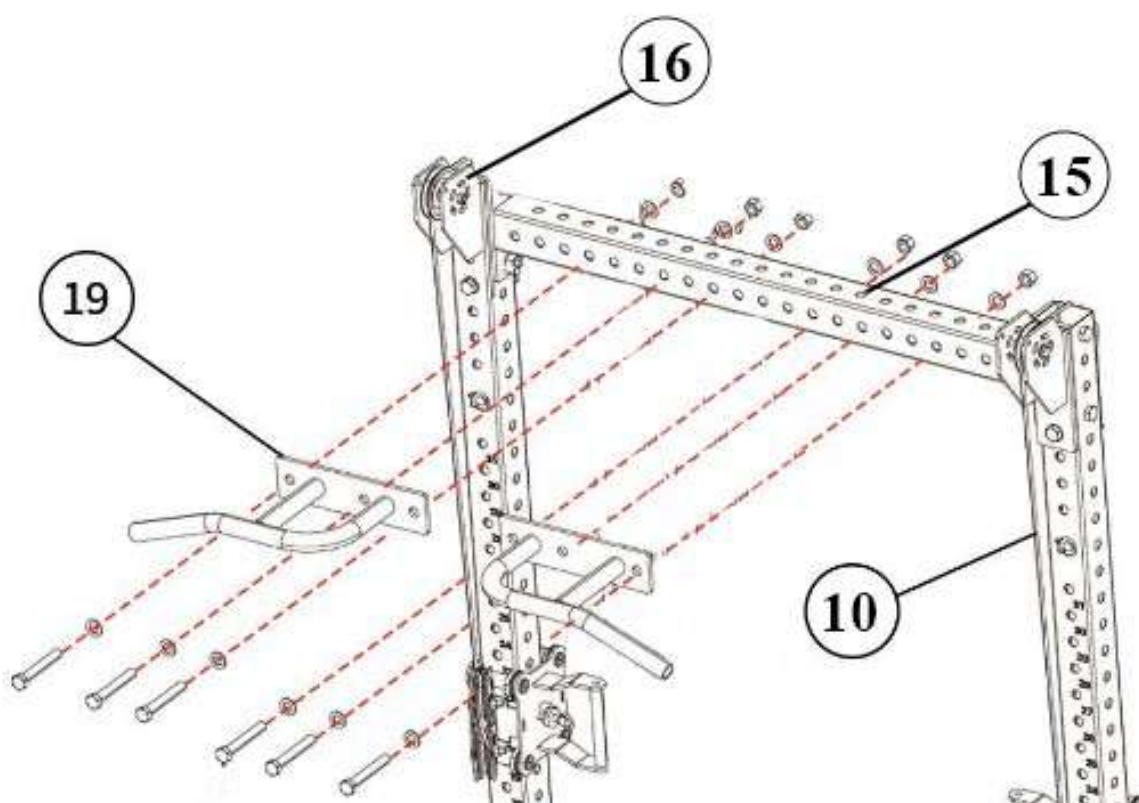

FIG. 2A
1. Connect both front upright columns (10) together with the upper front crossbeam (15).
2. Secure the two pull-up bar handles (19) to the upper front crossbeam (15). **See FIG. 2A.**